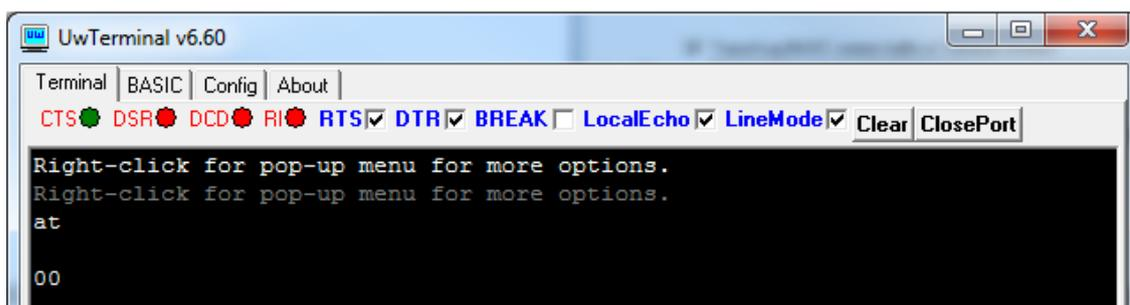

Figure 4: Comms OK
- Confirm that you can communicate with the development board by typing *at* and press enter. The module responds with 00 (Figure 4).